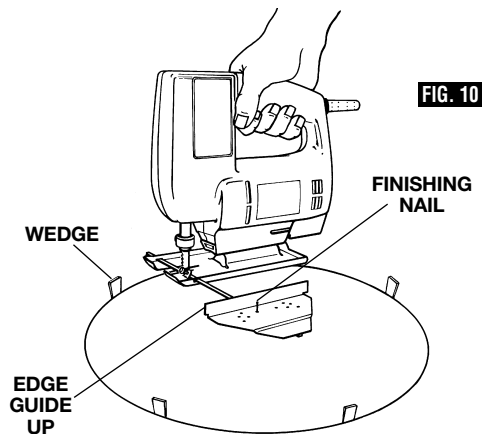

FIG. 10
2. Drill or plunge cut near the circles edge, turn saw off and disconnect the plug from power source (Fig. 10).
Cutting Tip: Cut slowly so the blade will stay straight in the cut. Place small wedges in the cut as shown in Fig. 10, to keep the inner circle from spreading when near the end of the cut.